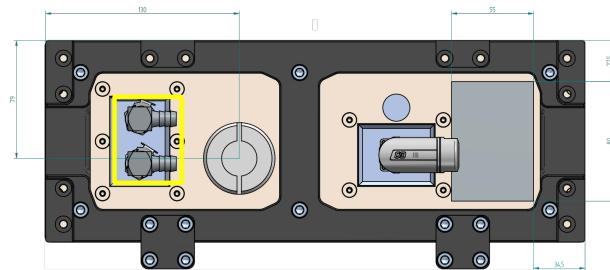

Figure 7.3: The yellow rectangle shows where the water hoses have to be connected to the LED device.
2. According to the system conditions, connect the water inlet and outlet to the water tubing hoses (see Fig. 7.2) and the water hoses to the LED device (see yellow rectangle in Fig. 7.3).